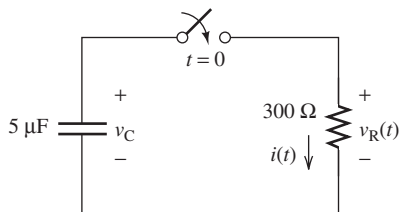

FIGURE P5.6 Circuit for Problem 5.6.
- 5.6 (A) Find an expression for $i(t)$ in Figure P5.6. $v_C(0) = 5$ V. (The switch closes at $t = 0$.)